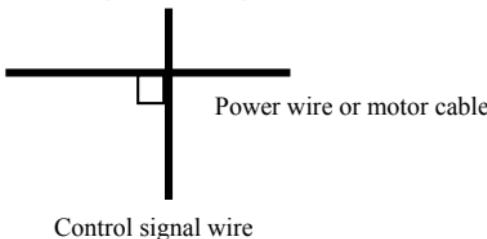

Fig.3-15 System wiring demand
(1) Inverter terminal motor connection wire (U,V,W terminal output wire) and inverter terminal power connection wire (R,S,T terminal input wire) should keep distance enough as more as 30cm.
(2) U,V,W terminal 3 motor wires should be placed in metal tube or metal wiring tank as possible as.
(3) Generally control signal wire should use shield cable, when shield layer connect to inverter  terminal, it should be the single end earth grounding which closed to inverter side.
(4) Inverter  terminal earth grounding cable must directly connect to floor, it cannot connect to earth grounding through other device.
(5) Strong current cable(R,S,T,U,V,W) cannot parallel wiring closely with control signal wire, and bundled together is prohibited. It should keep distance from over 20~60 cm (relative to strong current size). When it's necessary to intersect, it should be orthogonal crossing, show as Fig.3-15.